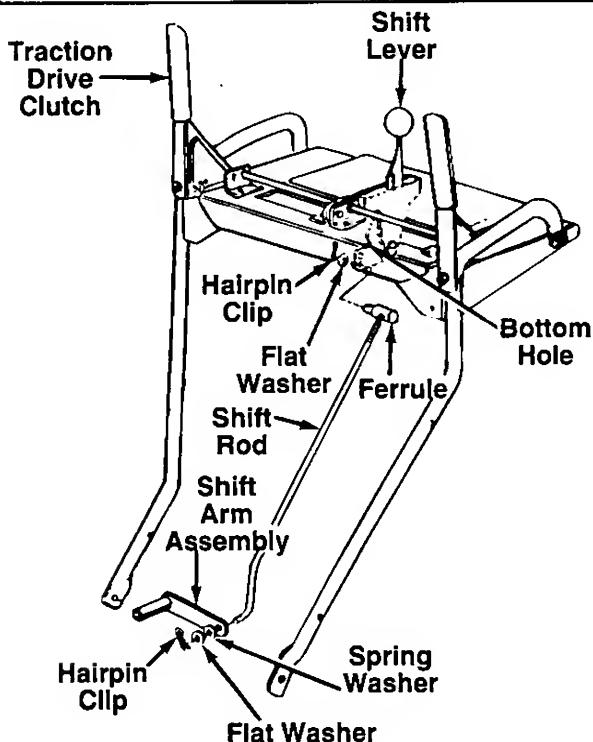

FIGURE 8.
1. Insert the ferrule through the lower hole in the shift lever (beneath the handle panel) from the left side. Secure with flat washer and hairpin clip. See figure 8.
2. Place the shift lever in the sixth (6) speed position (all the way forward).